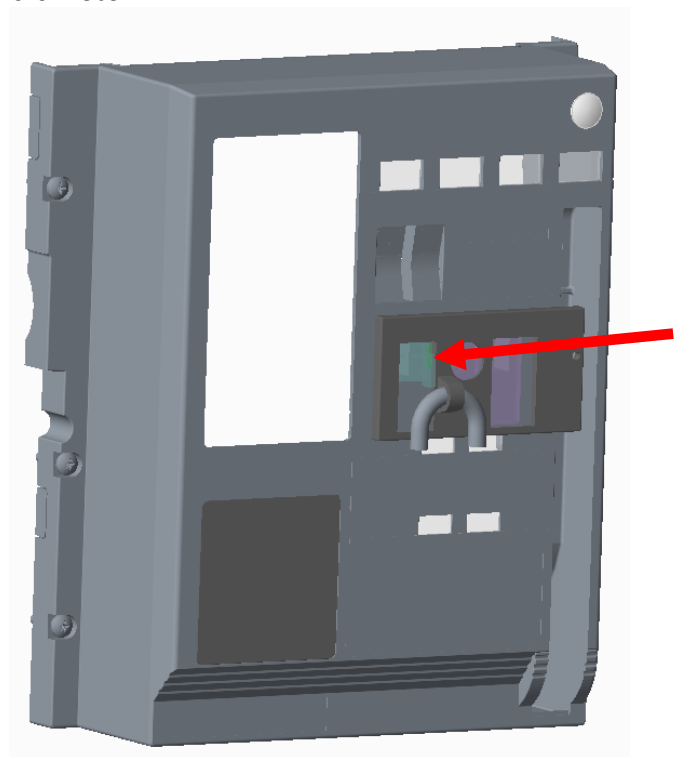

Figure 6
8. Raise the appropriate windows of OFF button. Install padlock has through the locking eye (Fig. 6). Padlock hasp can be of 1/4" to 3/8" diameter